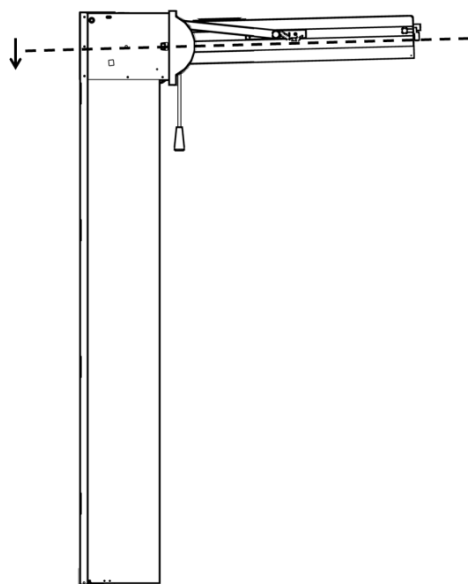
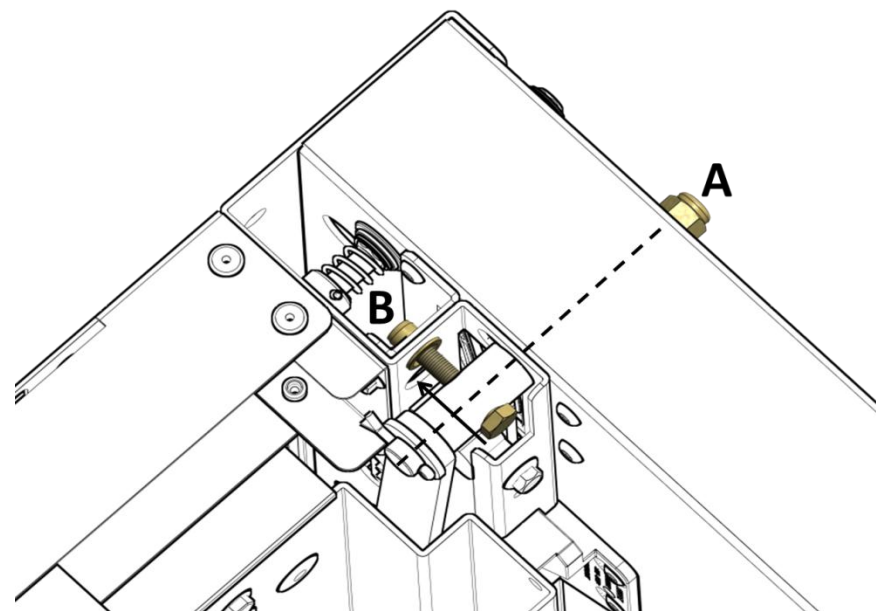

Figure 4-4
Figure 4-5
In open position, the upper section must be slightly tilted as showed in Figure 4-4. To adjust the upper section incline, the position of the pin highlighted in Figure 4-5 with a dashed line must be adjusted. Adjust the pin on both sides with door closed.
3. Release the pin nut, A (Figure 4-5);
4. Tighten the adjustment screw, B, to create more incline (Figure 4-5);